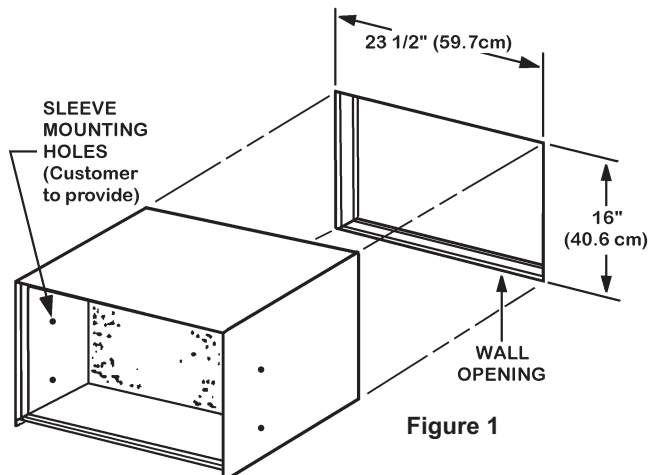
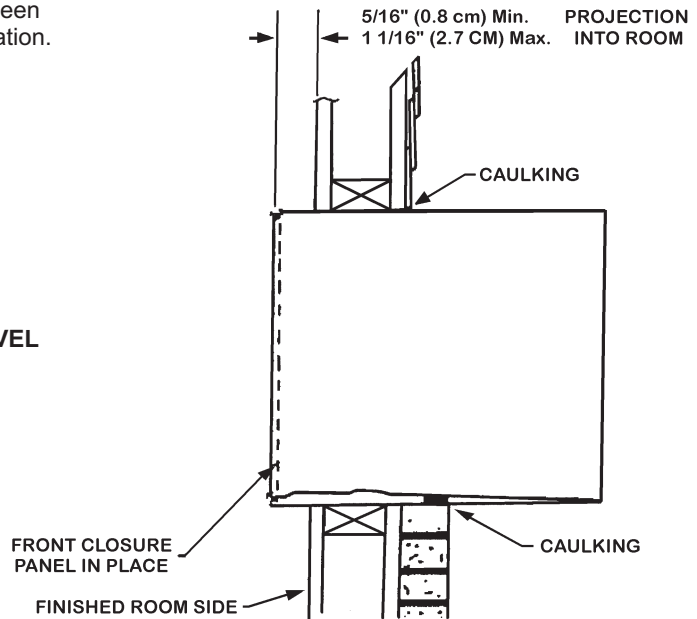

Figure 1
Figure 3
- If wall is brick veneer or frame construction, two studs should be cut through for maximum support when providing the wall opening. The wall opening must be sized to allow for a wooden frame, which has minimum inside frame dimensions of 16" (40.6 cm) high x 23 1/2" (59.7) wide. See figures 1 and 2.
- Insert sleeve into opening with 1 1/16" (2.7 cm) maximum - 5/16" (0.8 cm) minimum projection into room from finished inside wall surface. See figure 3. NOTE: Sleeve must have minimum rear projection of 1/2" (1.27 cm) to insure drainage outside of the wall area. MAKE CERTAIN SLEEVE IS LEVEL. This can be checked by placing a level against the top inside panel of sleeve. Secure sleeve into wall opening using (4) screws #10 x at least 1" (2.54 cm) long (not provided) and holes in sleeves inside walls. See figure 1. Customer to provide two holes (3/16" or 0.48 cm) each side for securing sleeve to wall opening. Location of holes will depend on sleeve location in wall.
- Seal any openings around all four sides between wall and rear of sleeve for weather-tight installation. See figure 3.